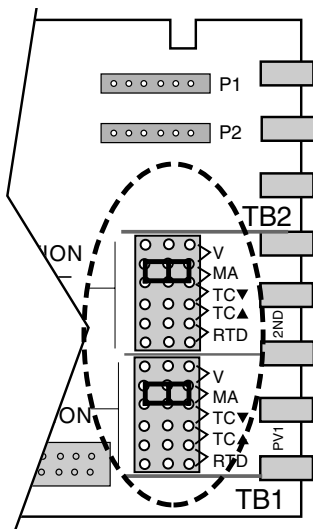

Figure A4.7
6. Remove both input jumper connectors from the pins in the 2nd position. Place one of the jumpers on the PV1 position **mA** pins, and place the other jumper on the 2nd position **mA** pins as shown in *Figure A4.7*.
1. Power down the 545 controller and place the input jumpers in the desired position (see Figure A4.3 and Figure A4.7).